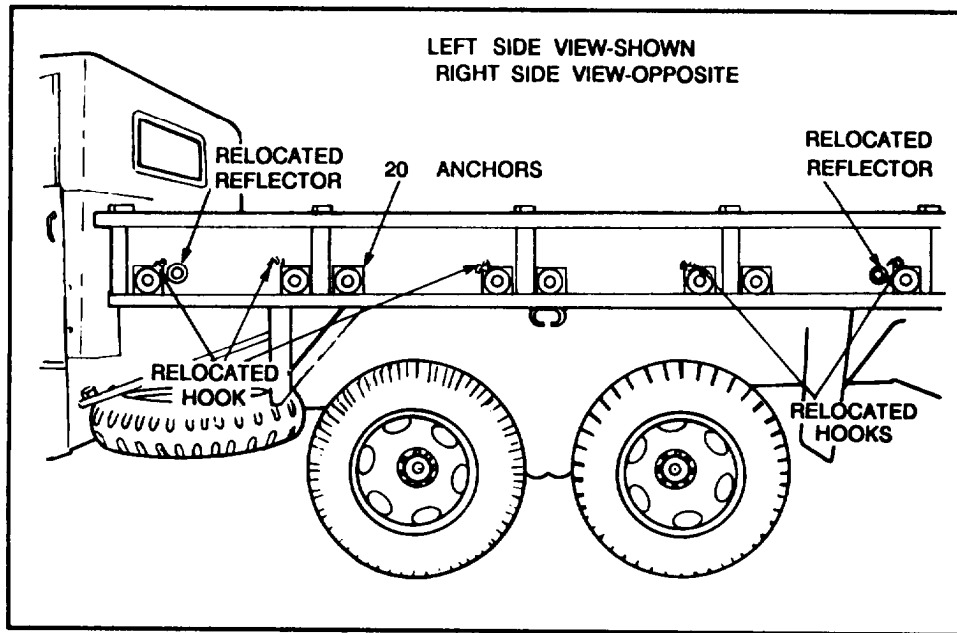

Figure 7. Location of anchors, hooks and reflectors on left side
(1) Remove and retain five paulin lashing hooks, two reflectors, four screws and four locknuts from each side panel of cargo body. Discard 20 rivets.
(2) Using template provided in kit, scribe location of eight anchors on left side, eight on right side, two on front, and two on rear panels of body, as shown in figures 7,8, and 9.